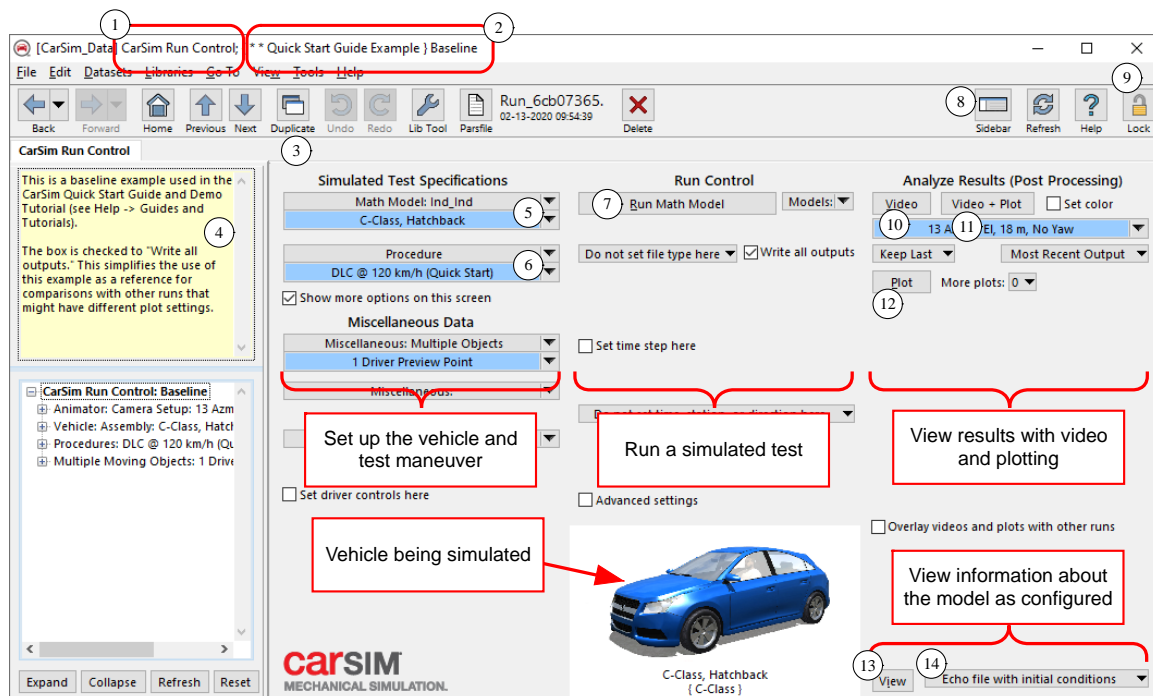

Figure 3. The Run Control screen in CarSim (Windows).
**Run Control:** The Home screen (Figure 3) shows the main screen of the CarSim Browser. The CarSim GUI screens are organized into libraries in the database folder. The current library name is shown in the Windows title bar (1), along with the title of the dataset in view (2).
You run a new simulation by clicking on the **Run Math Model** button on the **Run Control** screen ⑦ (Figure 3, page 4). When you do this, CarSim performs several steps to run the simulation:
VS Visualizer is launched by clicking one of three buttons on the **Run Control** screen (Figure 3, page 4): **Video** (10), **Video + Plot** (11), or **Plot** (12). If video is to be shown, the camera settings are obtained from an **Animator: Camera** dataset located below the **Video + Plot** button (11). Plot datasets are typically linked on the **Procedures** screen (6) and can represent either the time history of an output variable or a cross-plot between any two output variables.